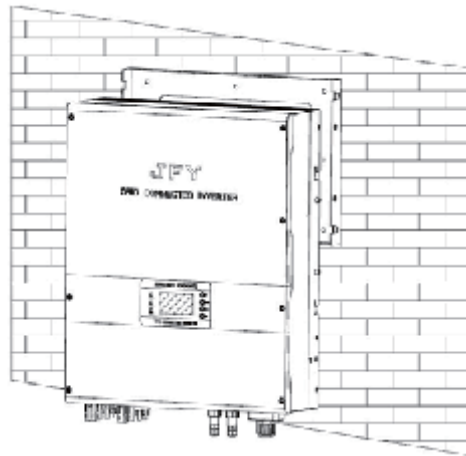

Fig.5 Hang inverter to mounting frame
- Step3: Fix safety-lock screws at upper-left side and upper-right side as illustrated in Fig.5 with the attached socket head wench.